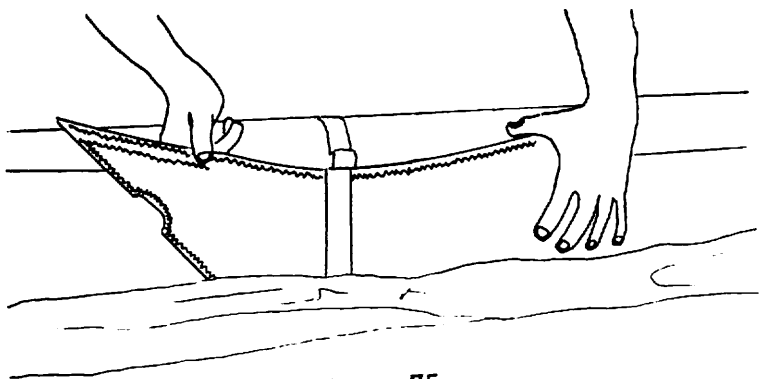

Fig 75
15) Slide the nose cone under the forward most velcro strap. (Fig 75) Zip up the bag.